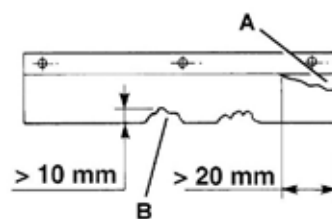
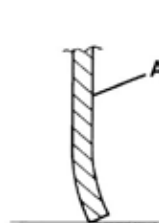
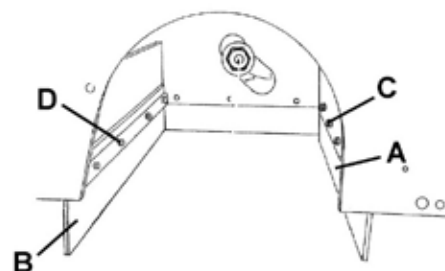

Figure12
Figure14
Figure17
- 1) Unscrew the knobs (17 and 34) and remove both left (16) and right covers (33).
- 2) Check the side skirts (11 and 12) for integrity. Replace the skirts when they have cuts (A, Fig. 12) larger than 0.79 in (20 mm) or cracks (B) larger than 0.39 in (10 mm) (for skirt replacement).
- 2) Check the front (13) and rear skirts (14) for integrity. Replace the skirts when they have cuts (A, Fig. 12) larger than 0.79 in (20 mm) or cracks (B) larger than 0.39 in (10 mm) (for skirt replacement).
- The front skirt (A, Fig. 17) slightly touches the floor (A, Fig. 14).
- The distance from the ground of the rear skirt (B, Fig. 17) is within 0-0.12 in 0-3 mm (A, Fig. 12).
4) If necessary, adjust the skirt height by using the slots on the screws (C and D, Fig. 17).